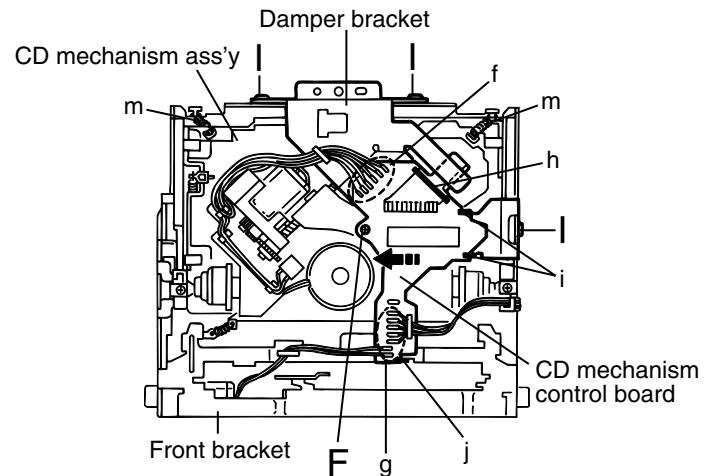

Fig.10
■ Removing the CD mechanism control board (See Fig.10 and 11)
■ Removing the CD mechanism ass'y (See Fig.10, 15 to 18)